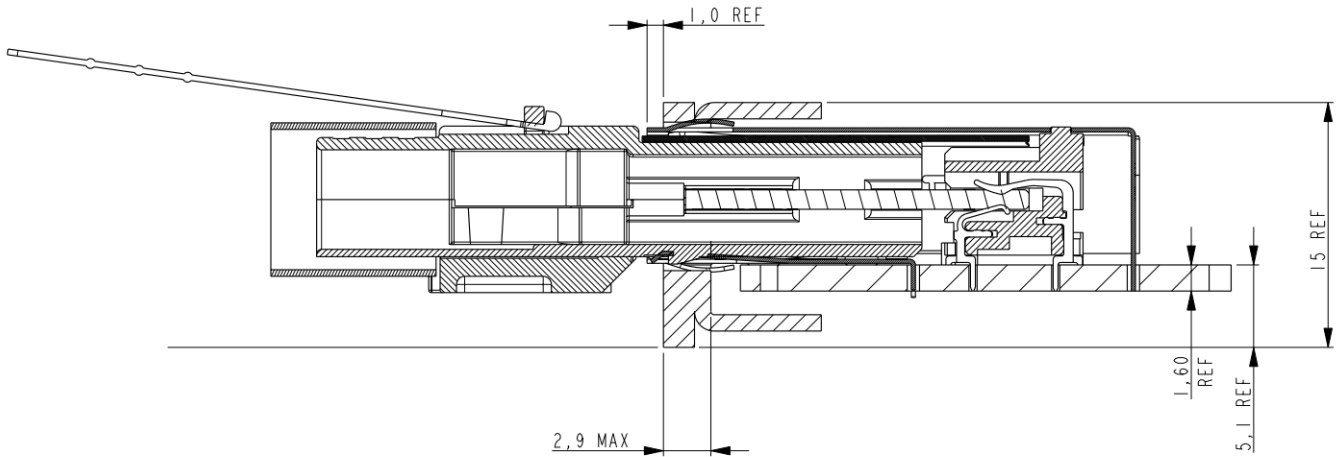

Figure 2
- 4.1 The board connector has to be extended for min 1 mm thru the front plate for proper working of the latch mechanism. See figure 2